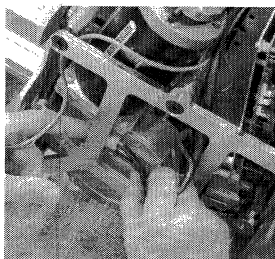

Fig. 7
- f. Pull wiring harness from behind bracket and re-route as shown (Figs. 7 and 8).